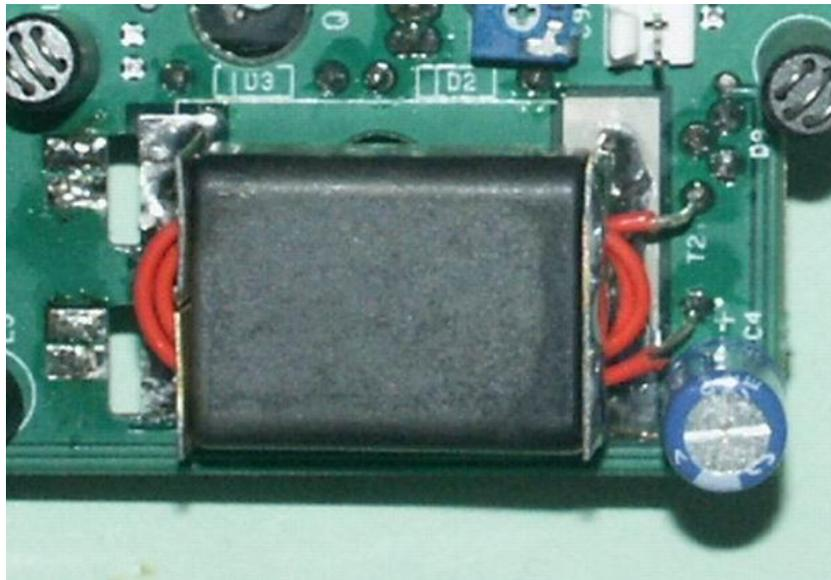

Figure 2: Enlargement of Transformer T2 with red wire primary
11. At this point, the option is to remove transformer T2 (with the loops of red wire through it) or unsolder Q2 and Q3. I chose the latter. Use extreme caution while unsoldering the Q2 and Q3 leads from the board near transformer T2 (Figure 2). There are solder pads on the **left end of T2** and to the left of the slot where leads for Q2 and Q3 come through the board.